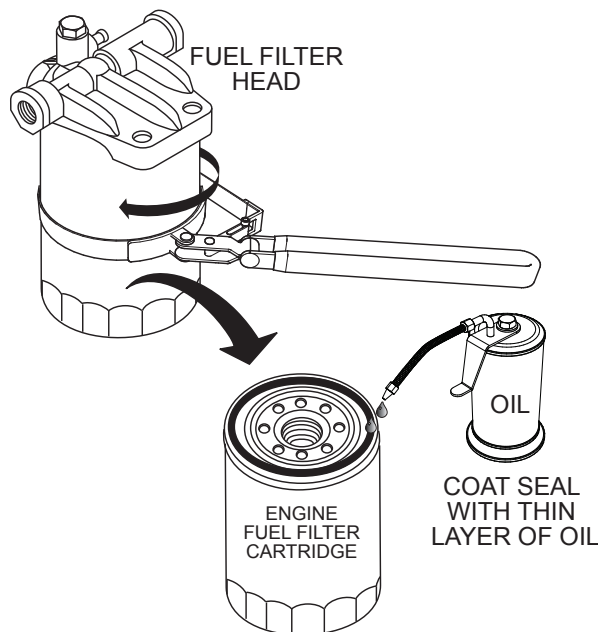

Figure 59. Fuel Filter Removal
2. Using a filter wrench (Figure 59), remove the fuel filter.